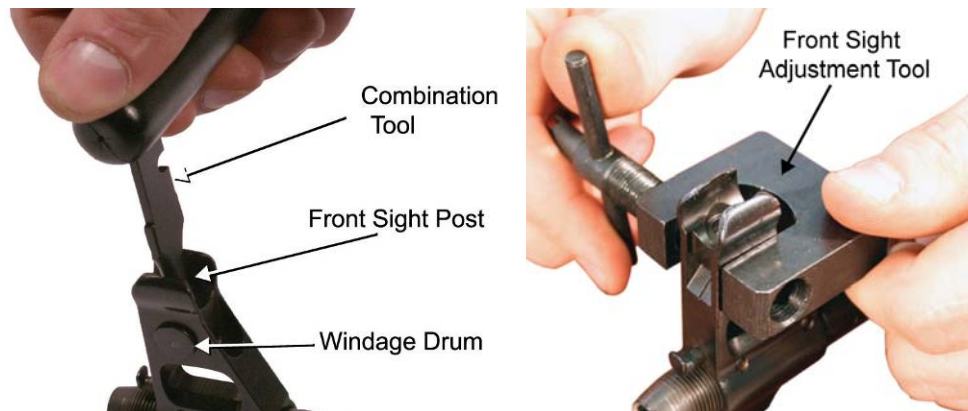

Figure 4. Setting the Front Sight Post and the Windage Drum.
- a. Front Sight Post. Screwing the front sight post down will move the strike of the round UP, screwing the front sight post up will move the strike of the round DOWN. The combination tool (or the handle of the front sight adjustment tool) is used to screw the front sight post down or up. Refer to Figure 4.
- b. The Windage Drum. Pushing the windage drum left will move the strike of the round RIGHT, pushing it right will move the strike of the round LEFT. The front sight adjustment tool (or an M249 front sight adjustment tool) is used to move the windage drum. Refer to Figure 4.